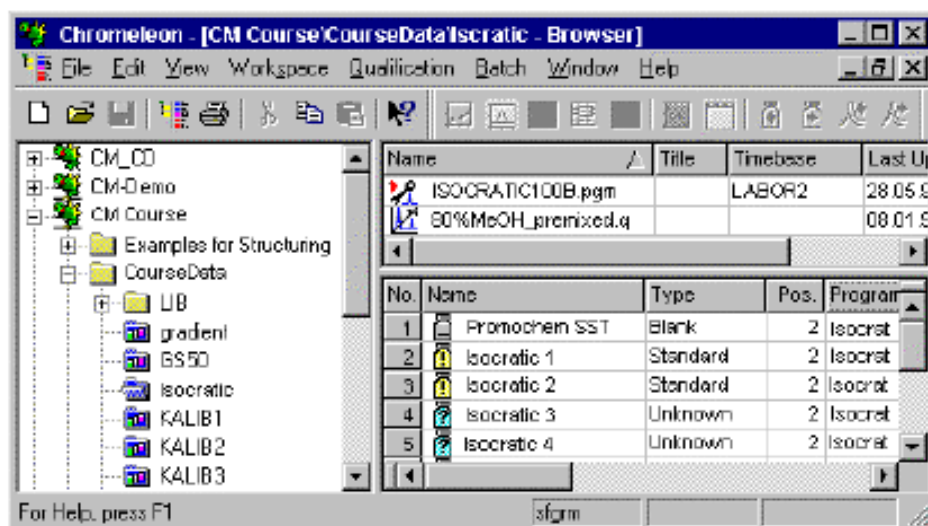

Figure 1. Chromeleon Browser
- 6.4 Chromeleon Browser: The portion of the software that allows data management, storage, and retrieval. The left window section illustrates the tree of file and folders. The right window section illustrates detailed information about the currently selected item. See Figure 1.